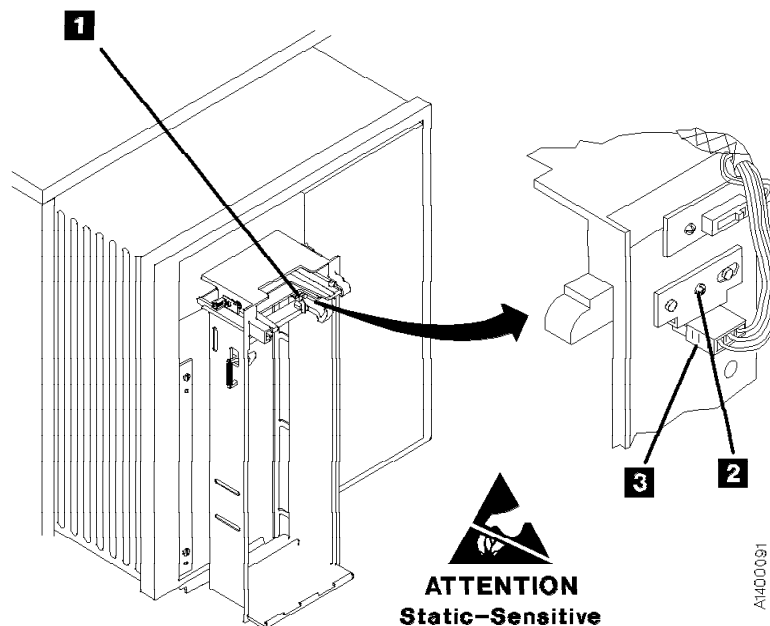

Figure 306. Magazine Present Sensor
3. See Figure 306. Disconnect the magazine-present sensor connector MP **3**